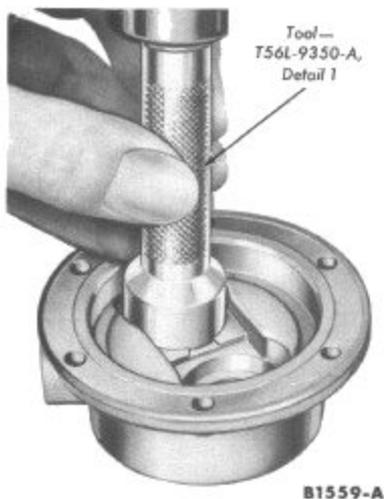

FIG. 34—Pump Valve and Gasket Installation
5. Install the valve gaskets, then press the valves in place using Tool T56L-9350-A, Detail 1 (Fig. 34). Stake each valve at four points.